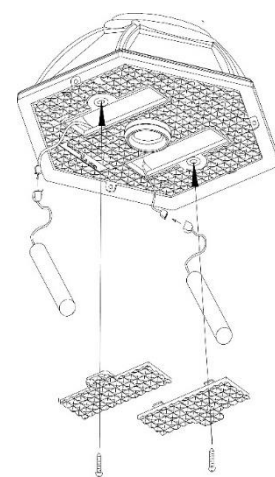

Fig.4
3. Unscrew the battery compartment **(Fig.4)** located on the silver reflector and remove the compartment door.